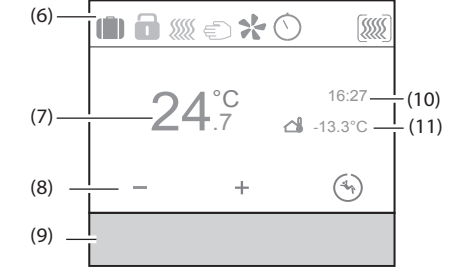

Figure 3: Basic display
The set temperature is defined by the operating mode and can be changed via the menu operating mode - holiday mode or settings. The selected operating mode, current time and measured room temperature are indicated in the display as an example (figure 3). The display contents can be represented in different ways depending on the setting. The upper status line symbolically represents the status of the device currently set (6).